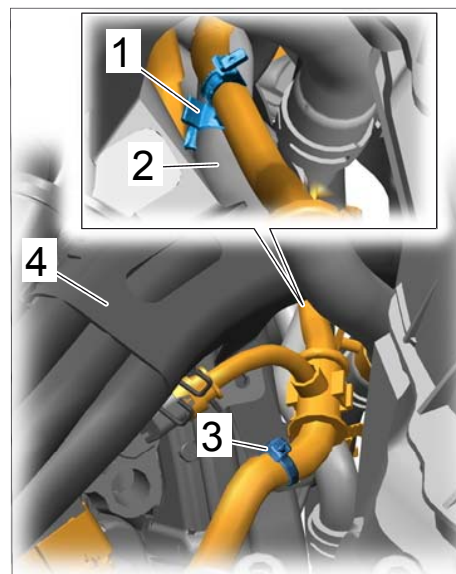

Figure 25
- 5.33 Secure the main wire harness with the wire clip ⇒ *Figure 25 -item 1-* to the coolant line ⇒ *Figure 25 -item 2-*.
- 5.34 Clip in new tie-wrap ⇒ *Figure 25 -item 3-*, Part No. **N.906.661.01**, used to secure the main wire harness close to the high-voltage wires ⇒ *Figure 25 -item 4-*.
- 5.35 Secure main wire harness using the tie-wrap ⇒ *Figure 25 -item 3-*.